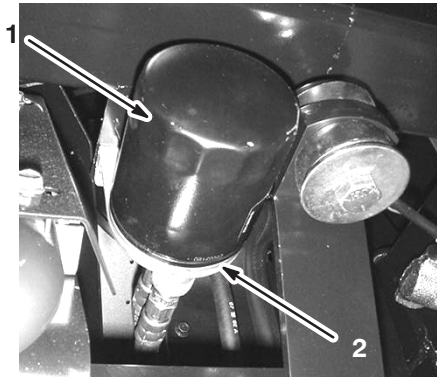

Figure 36
2. Remove the old filter (Fig. 36).
3. Wipe the filter adapter gasket surface (Fig. 36).
4. Apply a thin coat of new oil to the rubber gasket on the replacement filter (Fig. 36).
5. Install the replacement oil filter to the filter adapter. Turn the oil filter clockwise until the rubber gasket contacts the filter adapter, then tighten the filter an additional 1/2 turn (Fig. 36).